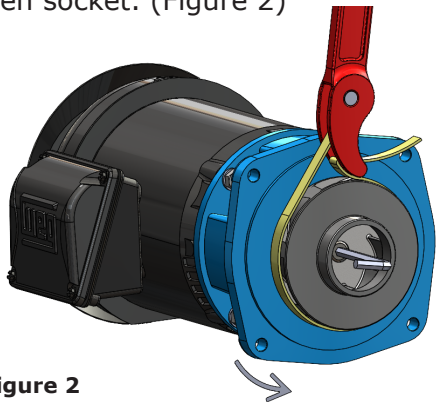

Figure 2
8. Place a strap wrench around the impeller outer diameter. While holding strap wrench against rotation, unscrew the impeller locking nut in eye using a 1/4-inch Allen wrench or Allen socket. (Figure 2)